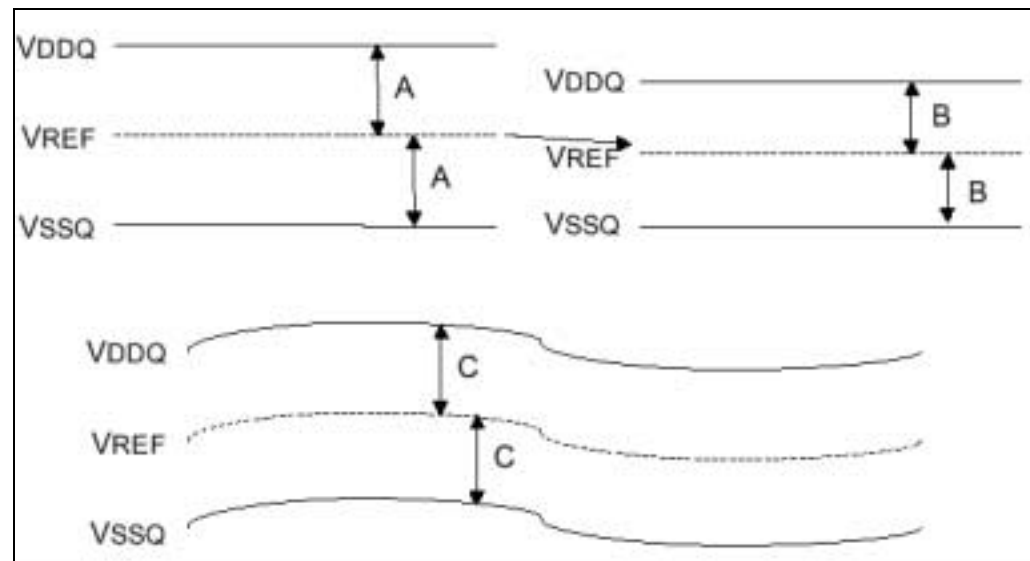

Figure 2 Vref tracking of VDD
- Vref must track the midpoint of the signal voltage swing (generally $VDDQ/2$) within 3% over all valid voltage, temperature, and noise level conditions. See Figure 2 below.